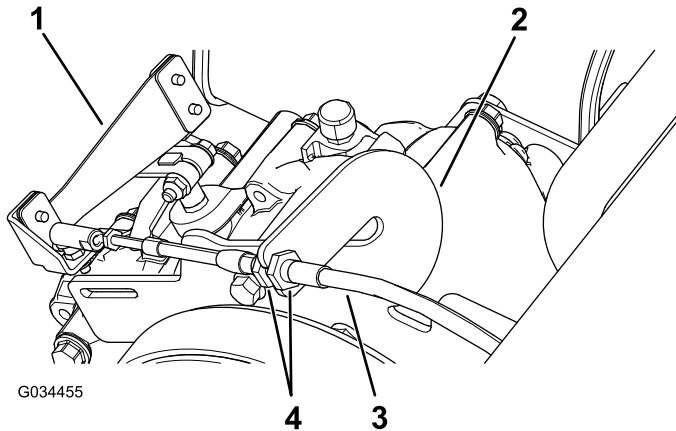

Figure 62
1. Loosen the jam nuts on the gear-shift cable and adjust them as necessary (Figure 62).
2. Test the gear-shift position by rotating the gear-shift selector to the 3 different positions and check to see if the shift lever (Figure 62) shifts properly when shifting the gears; refer to Gear-Shift Lever and Gear-Shift Indicator (page 12).